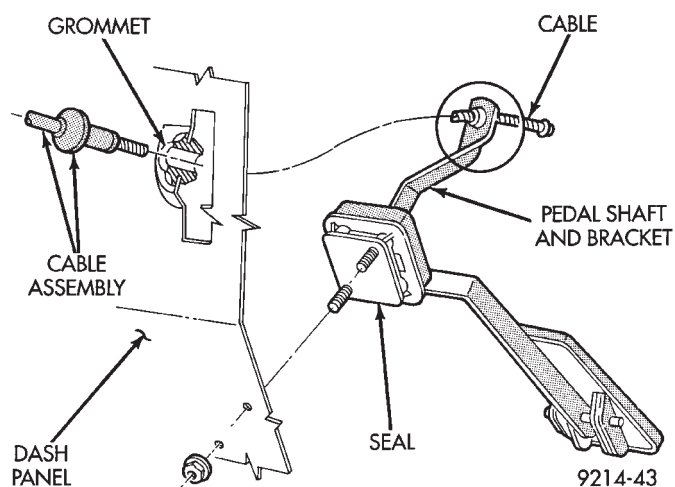
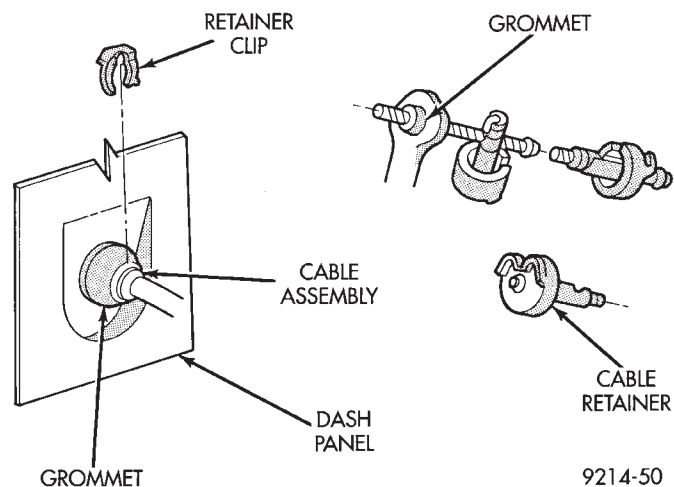

Fig. 1 Accelerator Pedal and Throttle Cable—Front View
Fig. 2 Accelerator Pedal and Throttle Cable—Rear View
(1) Working from the engine compartment, hold the throttle body throttle lever in the wide open position. Remove the throttle cable from the throttle body cam.
(2) From inside the vehicle, hold up the pedal and remove the cable retainer and throttle cable from the upper end of the pedal shaft (Fig. 1 and Fig. 2).
(3) Working from the engine compartment, remove nuts from accelerator pedal assembly studs (Fig. 1). Remove assembly from vehicle.
(2) From inside the vehicle, hold the throttle pedal up and remove the cable retainer and cable from upper end of pedal shaft (Fig. 1 and Fig. 2).
(3) Remove retainer clip from throttle cable and grommet at the dash panel (Fig. 2).
(4) From the engine compartment, pull the throttle cable out of the dash panel grommet. The grommet should remain in the dash panel.
(5) Remove the throttle cable from the throttle bracket by carefully compressing both retaining tabs simultaneously. Gently pull throttle cable from throttle bracket.